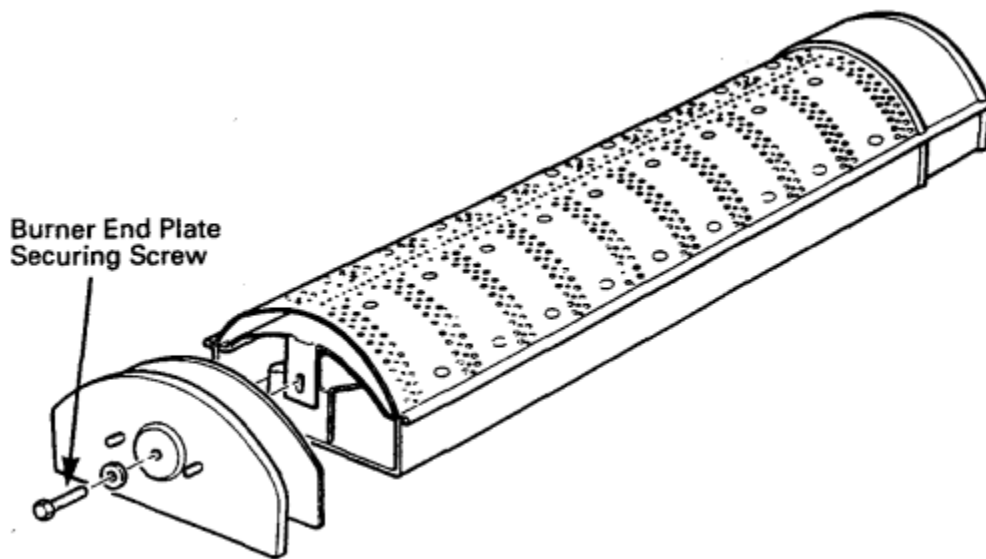

fig 13 - Burner (60/50/40)
- c) Remove the end flange assembly of the burner which is secured in position by a single screw together with 1 washer. Clear away any deposits which may have accumulated on the gauze or inside the burner. Refit the end flange taking care that the gasket is not damaged and that the washer is replaced (Fig 13).